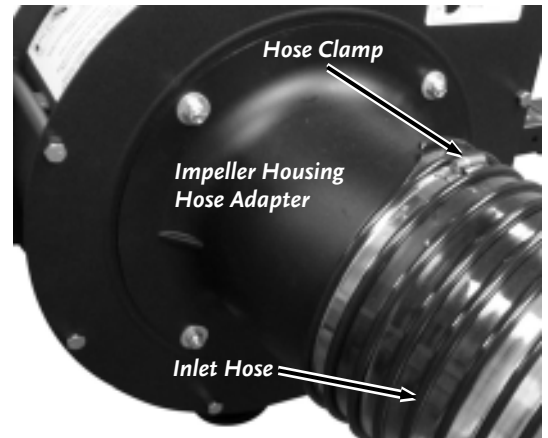

Figure 76
3. Disconnect the Hose from the Impeller Housing using a Flat Head Screwdriver or 9/32" Wrench (**Figure 76**).